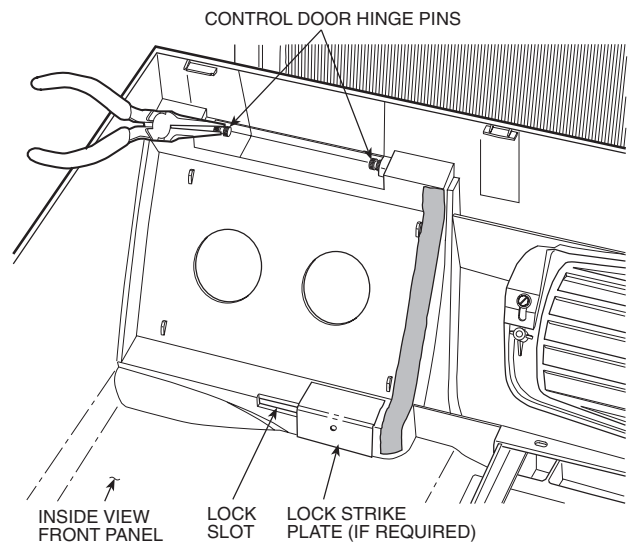

Fig. 3 — Removing Hinge Pins From Back of Front Panel
2. From backside of front panel, remove 2 control door hinge pins and set aside. See Fig. 3.
3. While holding door in place, re-attach 2 control door hinge pins into hinge pin holes on backside of front panel. See Fig. 3.
2. From inside of front panel, line up strike plate with lock slot in front panel. See Fig. 3.